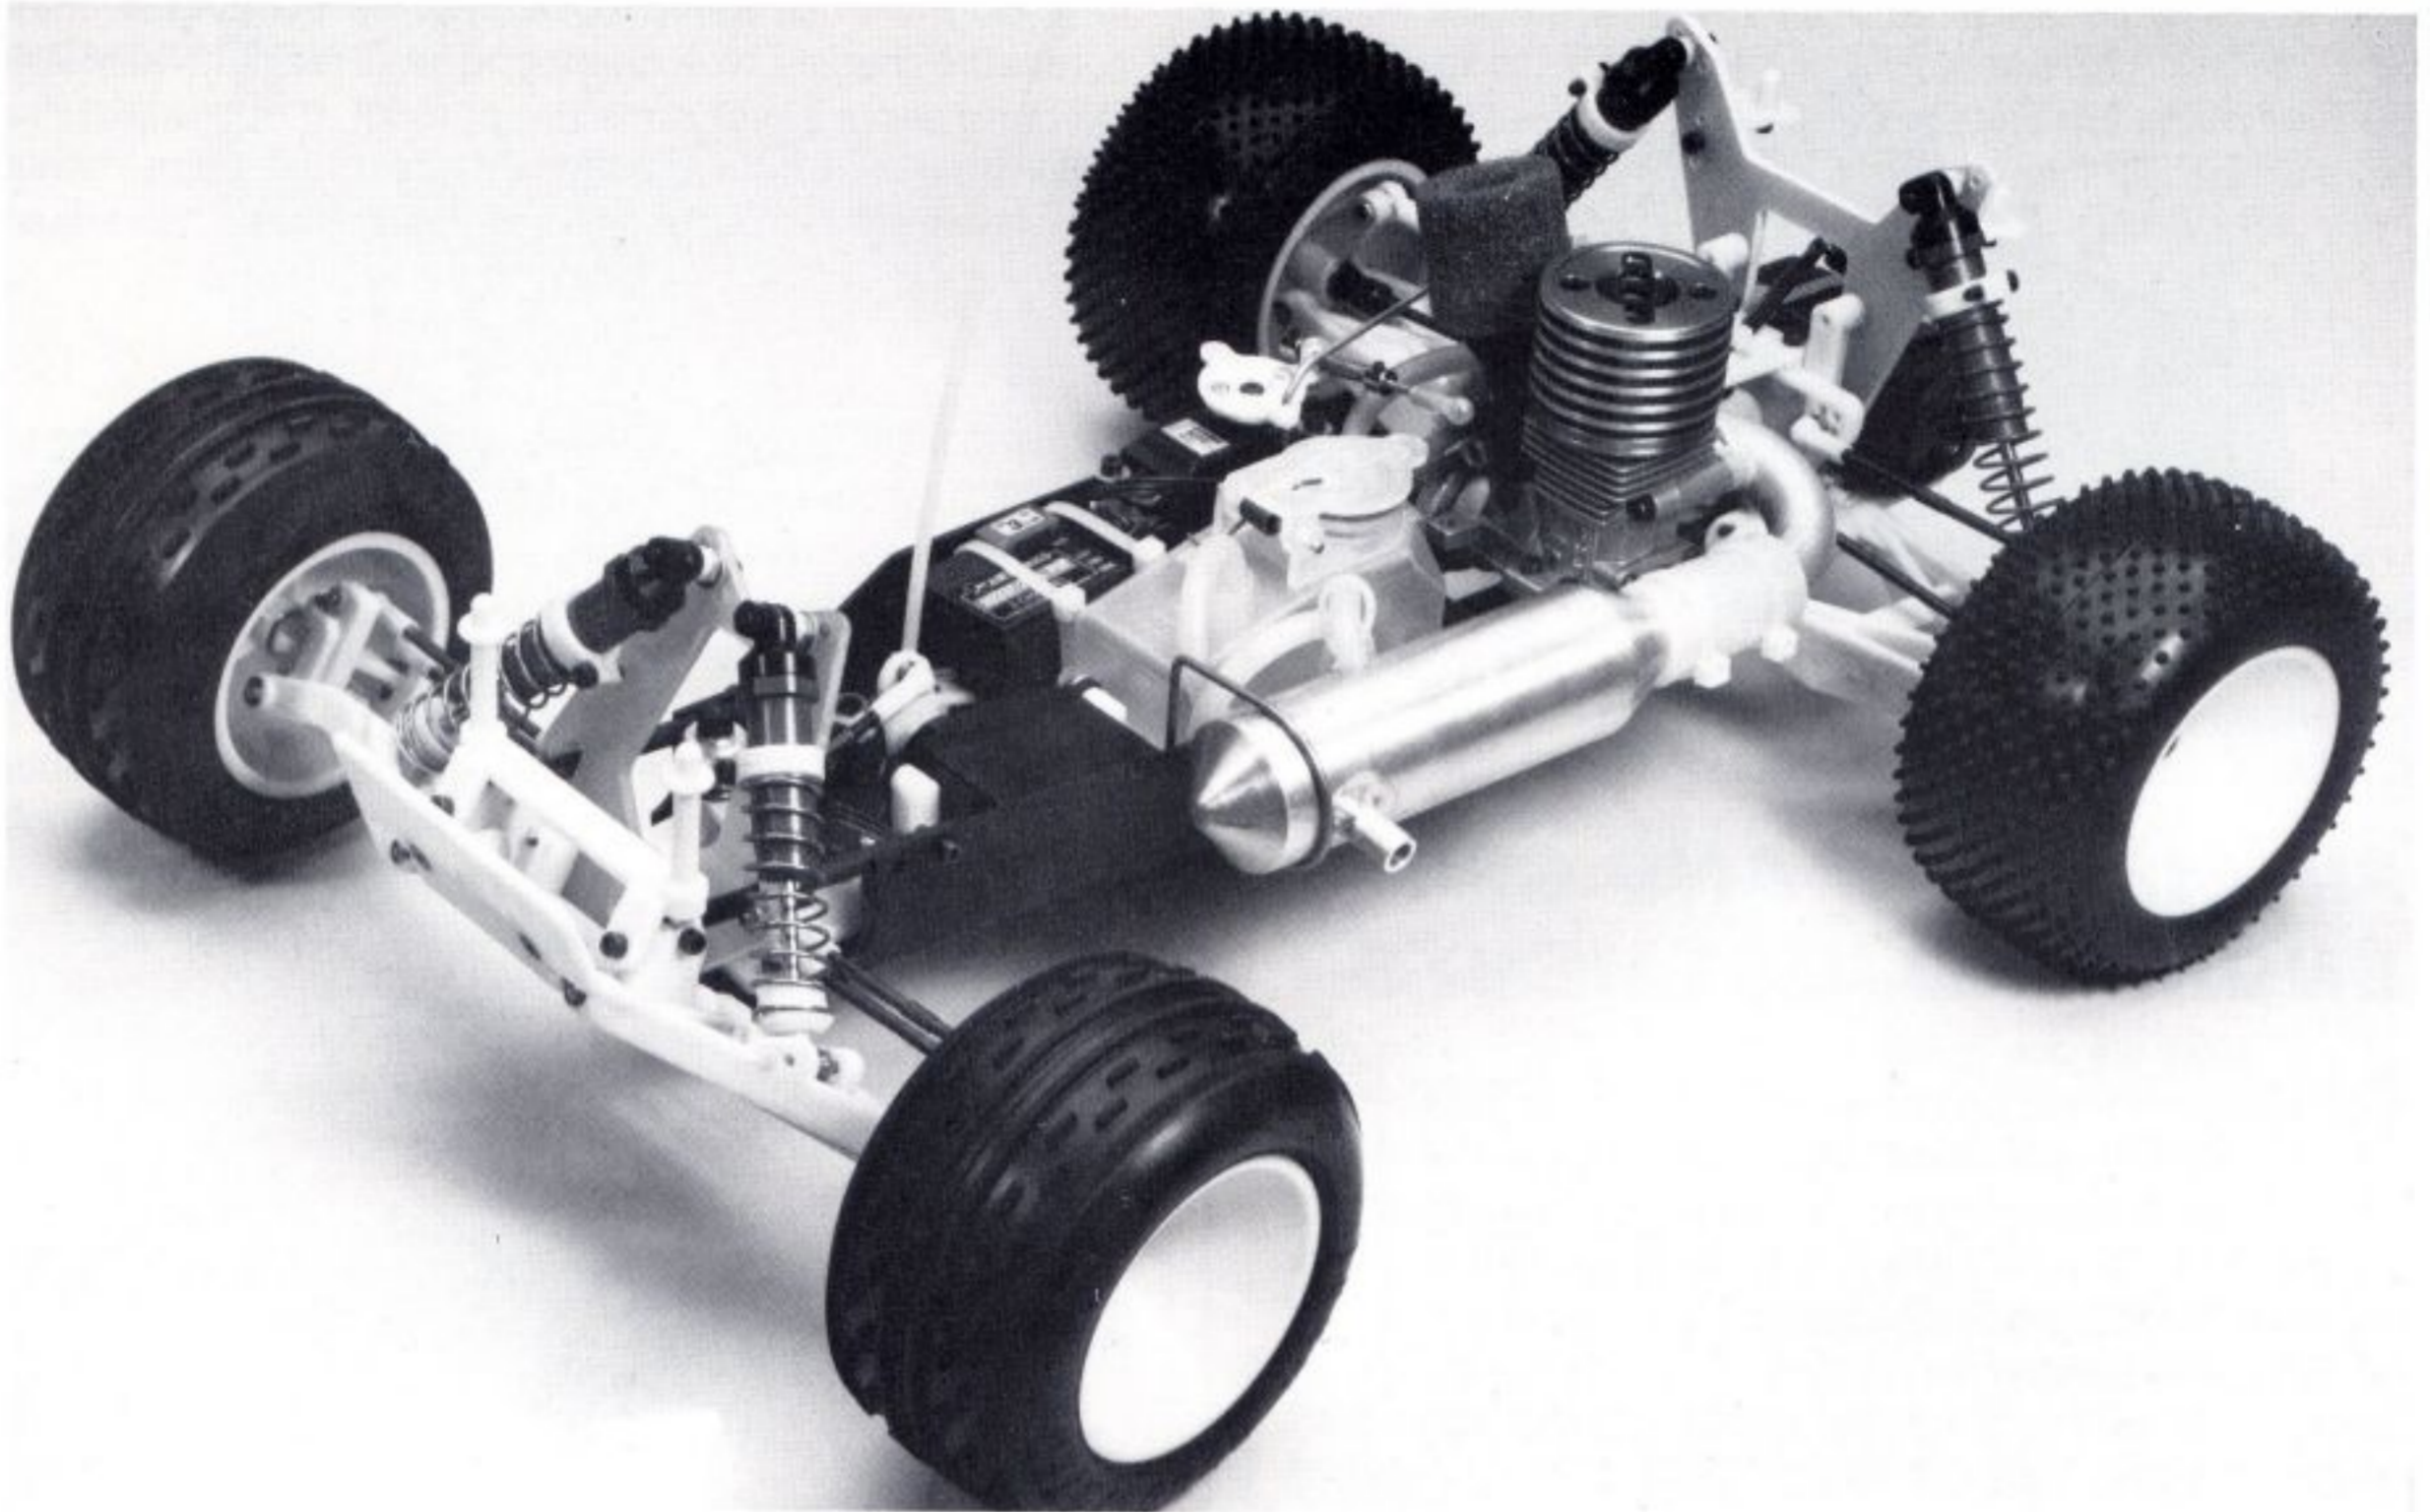

Fig. 292
□ **Fig. 292** This is how your completed truck should look at this time.